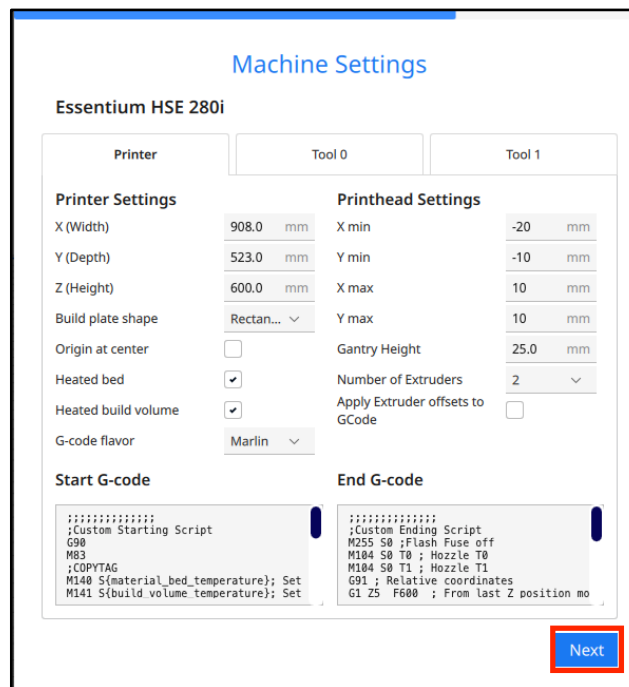

Figure 6: Adding Machine Settings
12. Enter any desired settings on the 'Machine Settings' prompt, and then click 'Next' (See Figure 6).